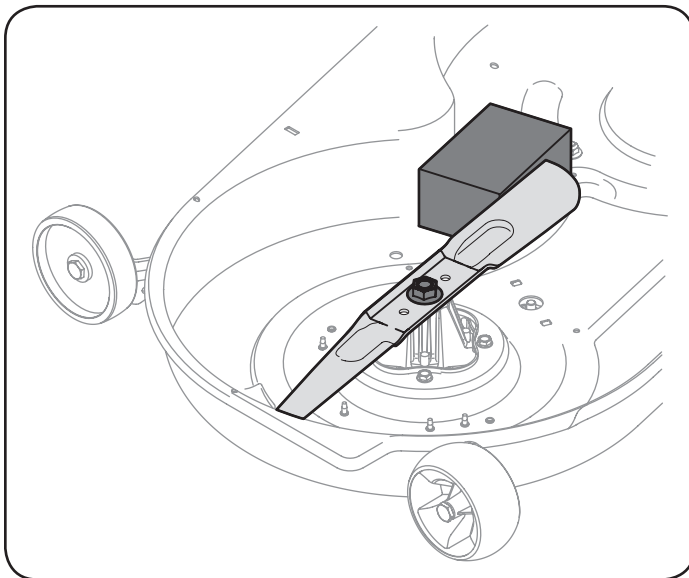

Figure 31
2. Place a block of wood between the deck housing baffle and the cutting blade to act as a stabilizer. See Figure 31.
3. Remove the hex flange nut that secures the blade to the spindle assembly. See Figure 31.